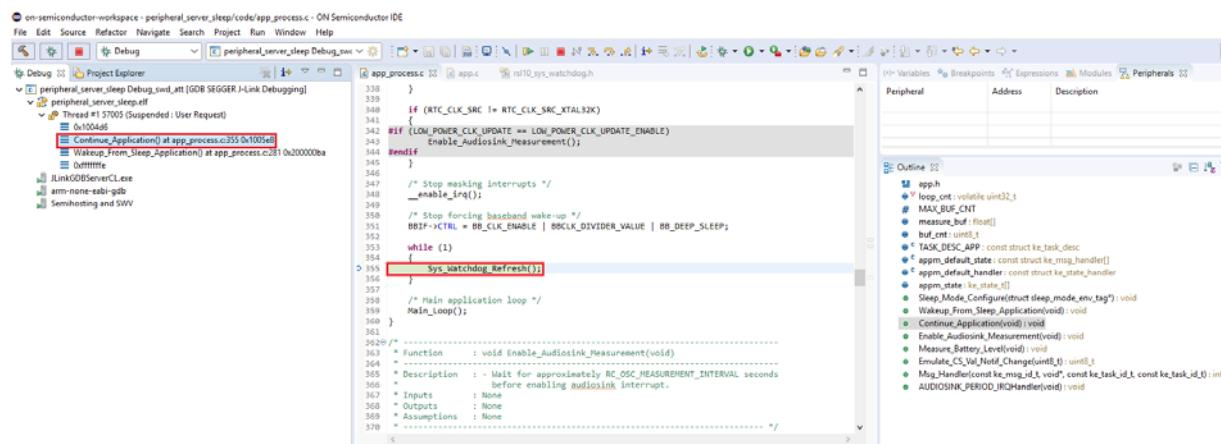

Figure 53. Second Debug Session Perspective After Connecting to the Running Target
- After the target exits Deep Sleep Mode, it is running in the infinite loop (step 1), and you can connect to the running target by starting the second debug session (see Figure 53). Note that the debugger is able to reattach to the running target and halt the processor after waking up from sleep.